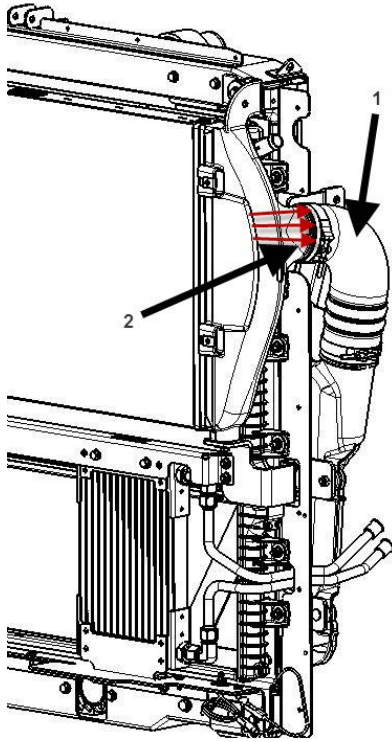

Figure 3 Installing Cold CAC into Hose Assembly
3. Insert un-mounted cold CAC (grill side) into hose assembly (2608804C2) (See Figure 3, page 5).